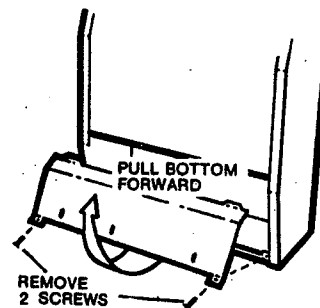

FIG. 4. REMOVING LOWER FRONT PANEL
STEP 4. Remove the lower front panel of heater by removing the two screws near the bottom corners and pulling the bottom of panel forward. (Figure 4)